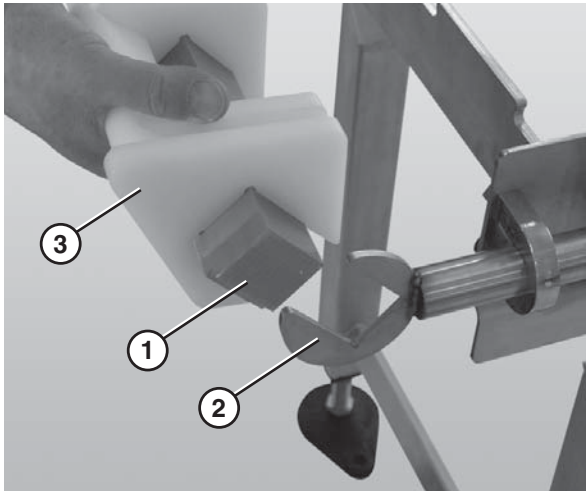

Figure 63
1. Slide the nose bar drive or transfer post (Figure 63, item 1) out of the nose bar drive weldment or idler hands (Figure 63, item 2).
2. Remove the nose bar tracking pucks (Figure 63, item 3), if applicable.